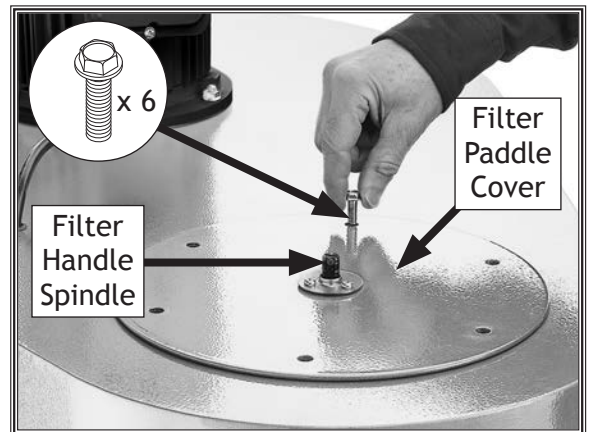

Figure 25. Installing filter paddle cover.
27. Slide filter paddle cover over filter handle spindle, then secure with (6) $\frac{5}{16}$ "-18 x $\frac{3}{4}$ " flange bolts (see **Figure 25**).